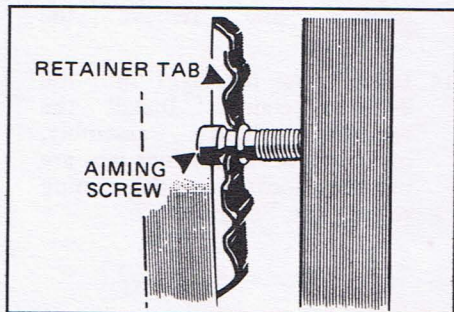

Figure 7 - Installing headlight
14. Install new headlight into the 2-piece retainer. Install the retainer/headlight assembly, making sure the retainer tabs are properly located in the aiming screw slots. See Figure 7.